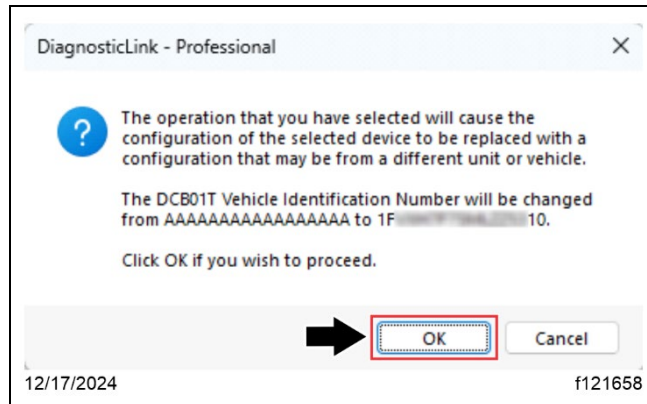

Fig. 33, VIN Write Pop-Up Window
15.4 Select 'OK' to acknowledge the VIN write box. See Fig. 33.